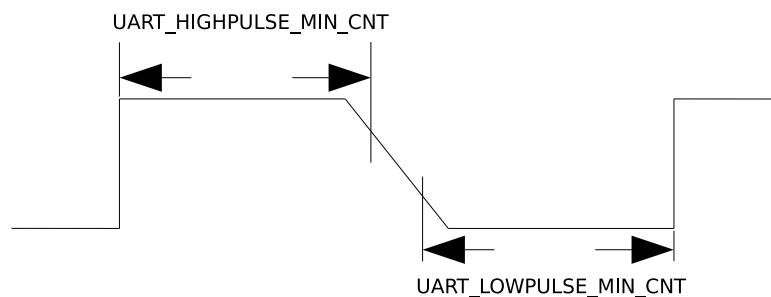

Figure 26-4. The Timing Diagram of Weak UART Signals Along Falling Edges
2. If UART signals are weak along falling edges as shown in Figure 26-4, which leads to an inaccurate average of `UART_LOWPULSE_MIN_CNT` and `UART_HIGHPULSE_MIN_CNT`, use `UART_POSEDGE_MIN_CNT` to determine the transmitter's baud rate as follows: